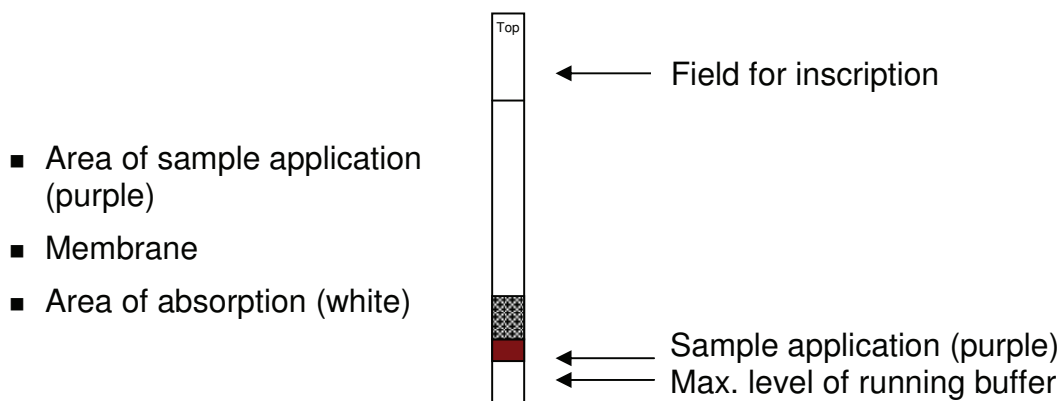

Fig. 1: Design of the Lateral Flow Strip
The determination of the combined amplification / hybridization reaction is done by visualization on a Lateral Flow Strip (fig. 1). The Lateral Flow Strip consists of the following areas:
2. Apply 10 µl of the PCR / hybridization reaction on the head of the sample application area (fig. 1, purple) at the border of the foil and incubate for at least 1 minute at room temperature.